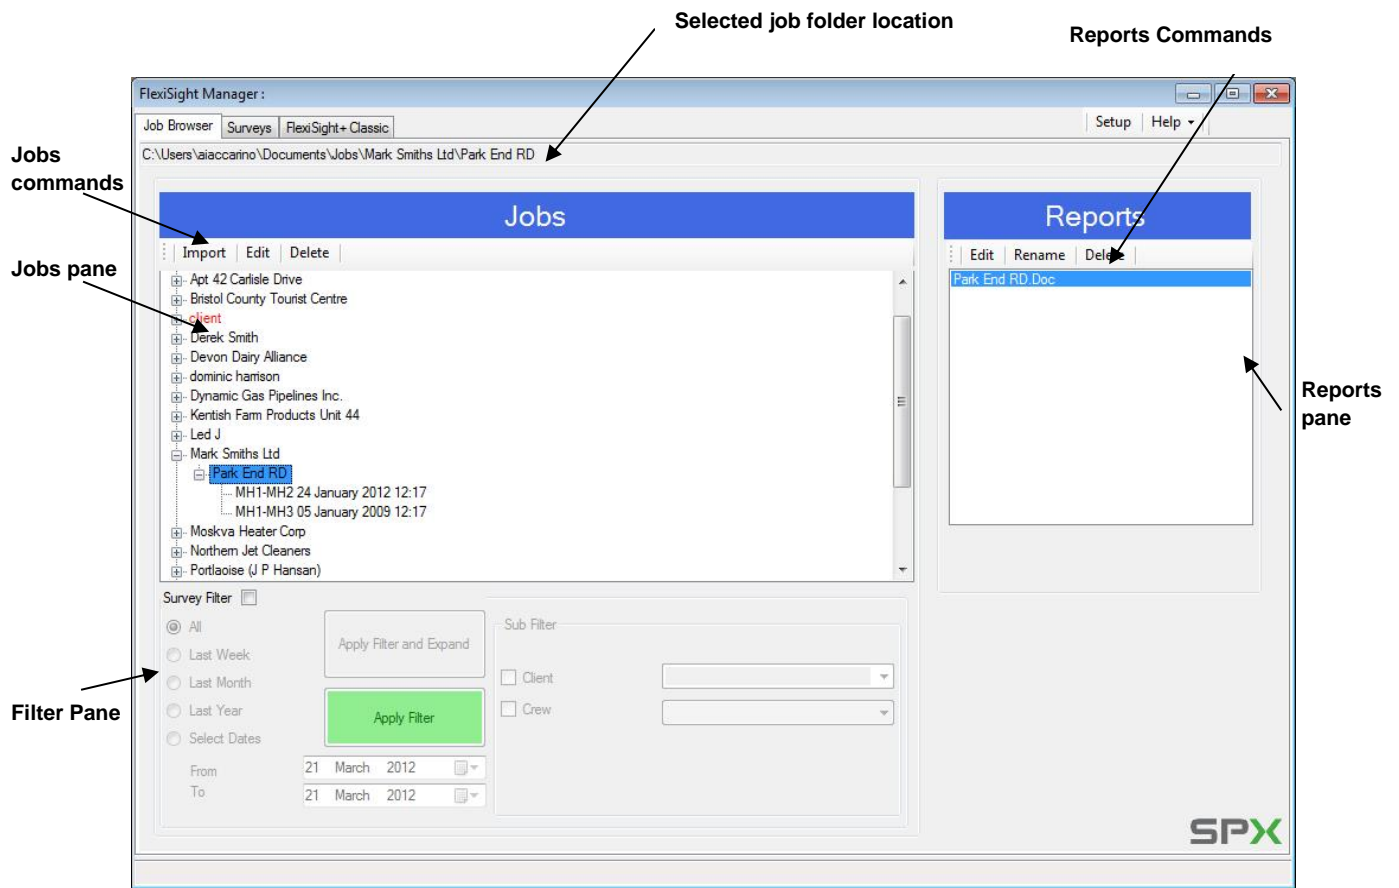

Figure 3.1 Job Browser window
FSM has a Job browser window (Figure 3.1) to allow you to manage all of your jobs. This window is divided into 2 main areas:
2. Press the **Import** button on the Jobs pane (see Figure 3.1).